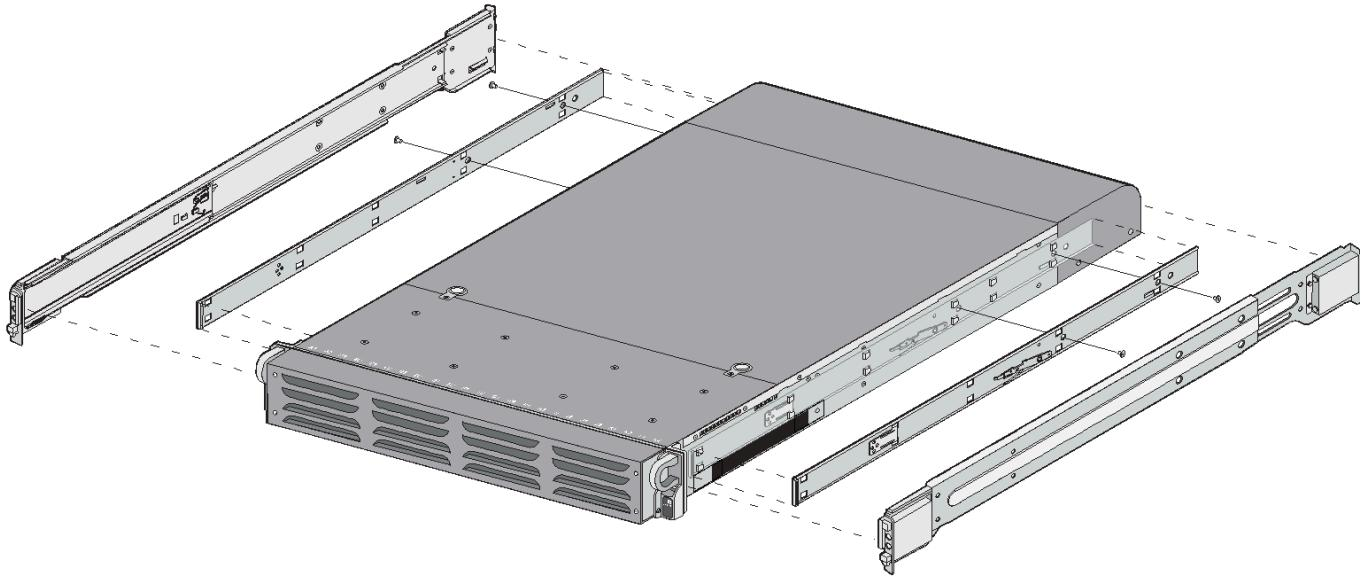
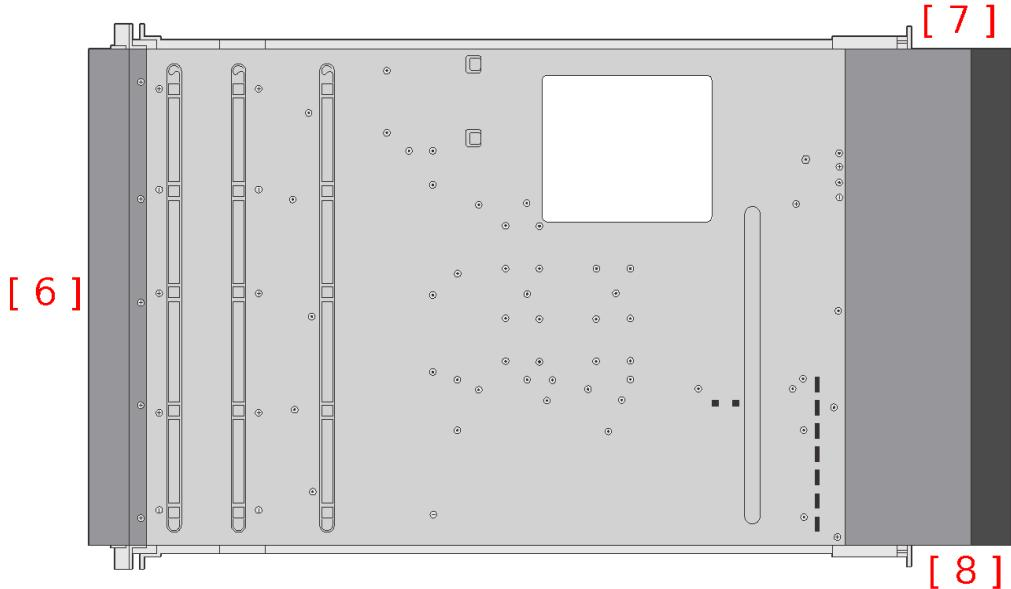

Figure 23 – M-500: Install Rail Kit
Figure 24 – M-500: Apply Tamper Seals on the Bottom of the Appliance
Step 7: Re-attach the rail kit to the appliance as shown in Figure 23 and then add three (3) tamper seals to the bottom of the appliance as shown in Figure 24. One (1) tamper seal prevents tampering of the front opacity shield connected to the bottom of the appliance and two (2) tamper seals wrap around the upper and lower rear opacity shields to prevent tampering of the rear opacity shields.